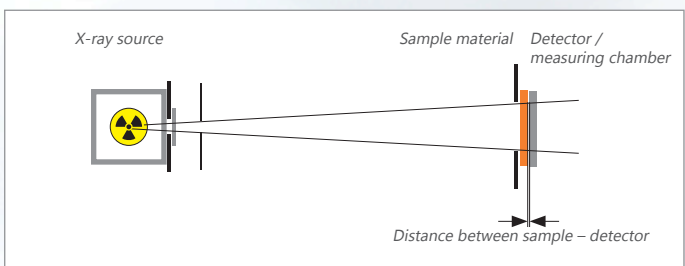

Fig. 13: Schematic representation according to the currently applicable DIN EN 61331-1:2016
▶ What is important to know: With this measurement, the measuring chamber is placed directly behind the sample (the protective material) (see fig. 13).